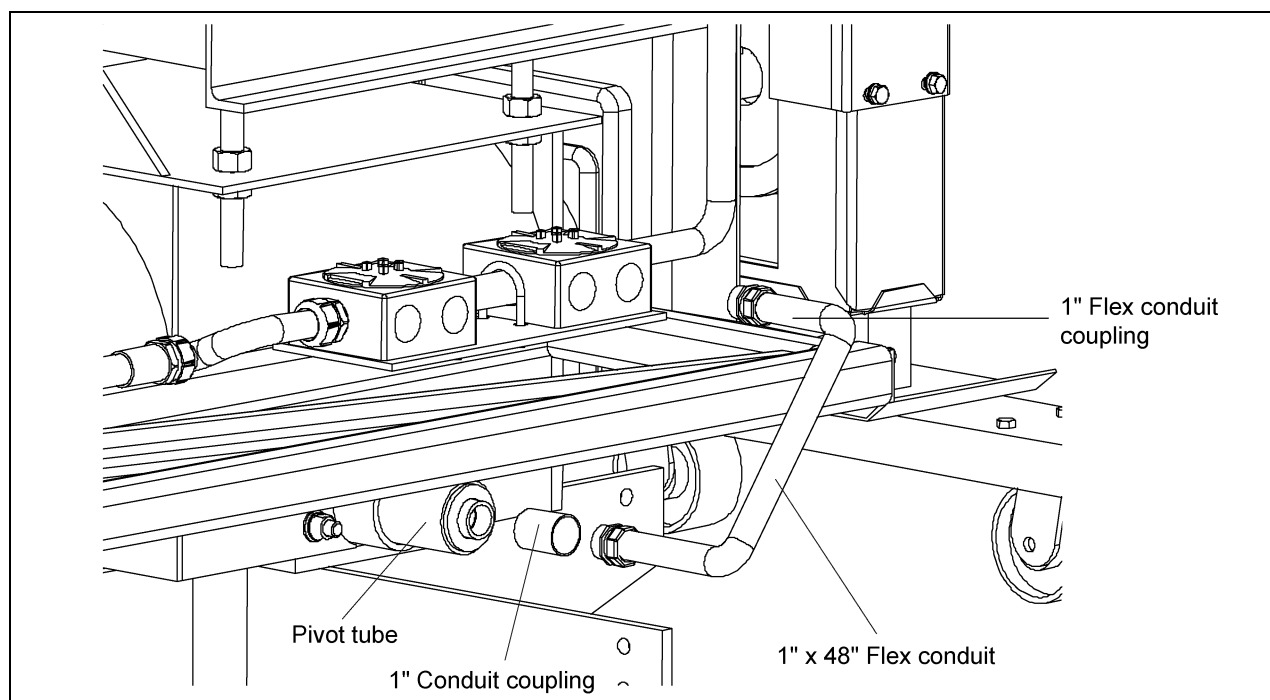

Figure 4H
28. Feed the nine (9) stranded wires from the slip ring through the 1" conduit coupling and 1" x 48" liquid-tight flex conduit assembly.
29. Attach the 1" x 48" liquid-tight flex conduit assembly to the pivot tube using the 1" conduit coupling. (See Figure 4H.)